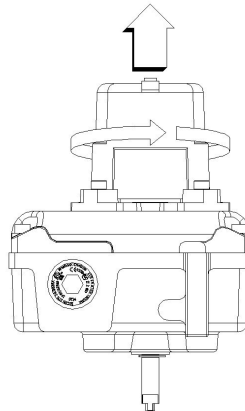

Fig 2
- 5.1 To release the cover, loosen the cover retaining screws using a 4mm A/F Allen Key. Lift the cover and twist approx 45° and remove. See Figure 2 below.
Manually depress palm button and rotate clockwise for maintained condition, must manually disengage to return to original position. See Fig. 2